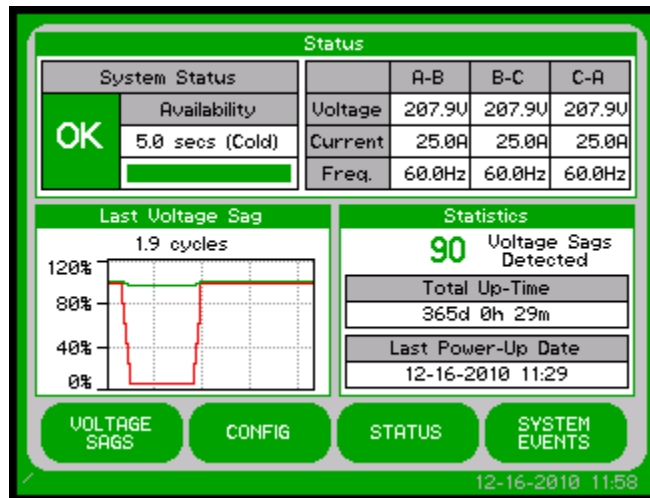

Figure 1 - Home Screen
Step 1: Press the "CONFIG" button at the bottom of the "HOME" screen (See Figure 1).